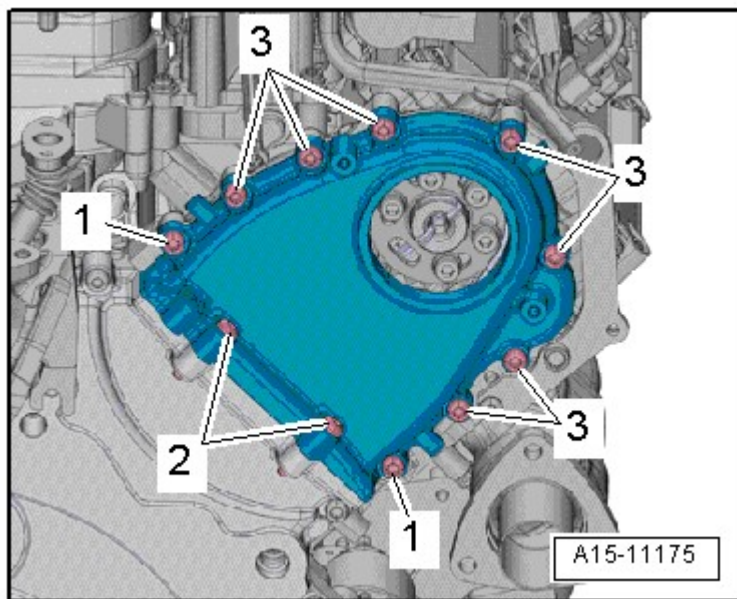

Fig. 10: Identifying Right Timing Chain Cover, Tightening Specifications and Sequence
- Tightening specification and sequence, refer to **Fig. 10**
- Tightening specification and sequence **Fig. 10**